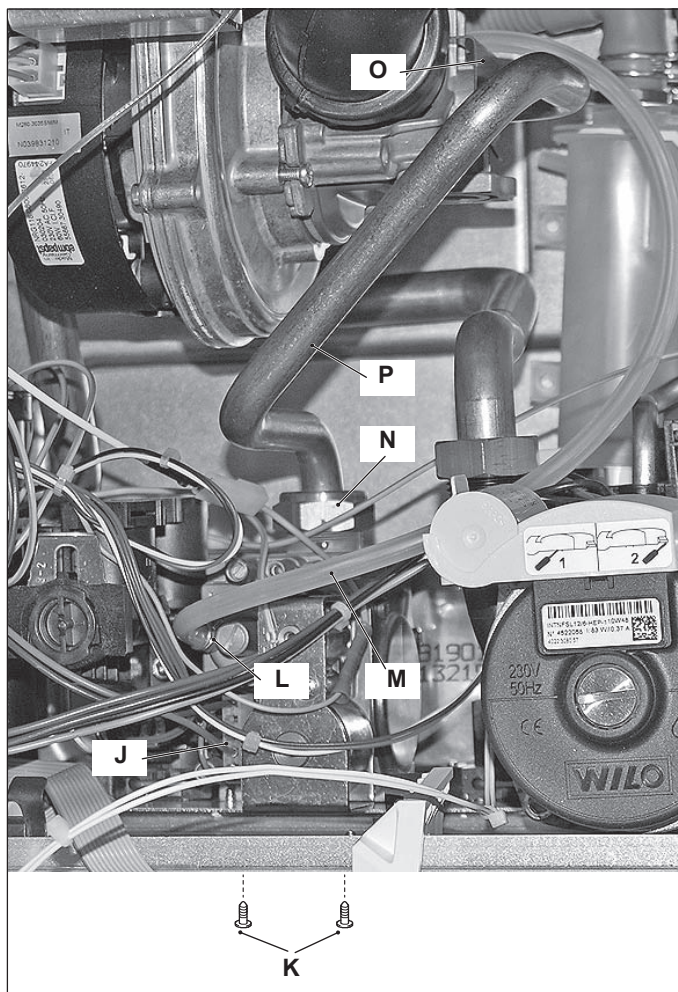

Figure 11.13
- 2 Disconnect the connector J (Figure 11.13).
- 4 Using pliers, remove the spring L and the rubber pipe M (Figure 11.13).